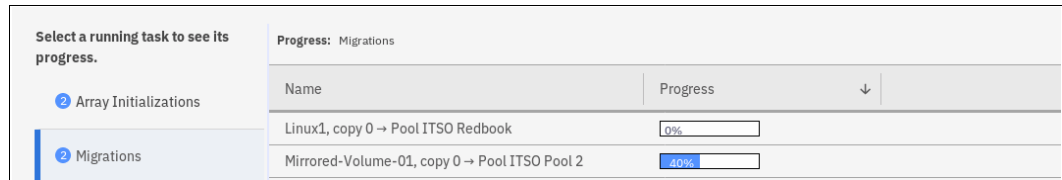

Figure 6-47 Migration progress
- Depending on the size of the volume, the migration process takes some time. However, you can monitor the status of the migration in the running tasks bar at the bottom of the GUI, as shown in Figure 6-47.